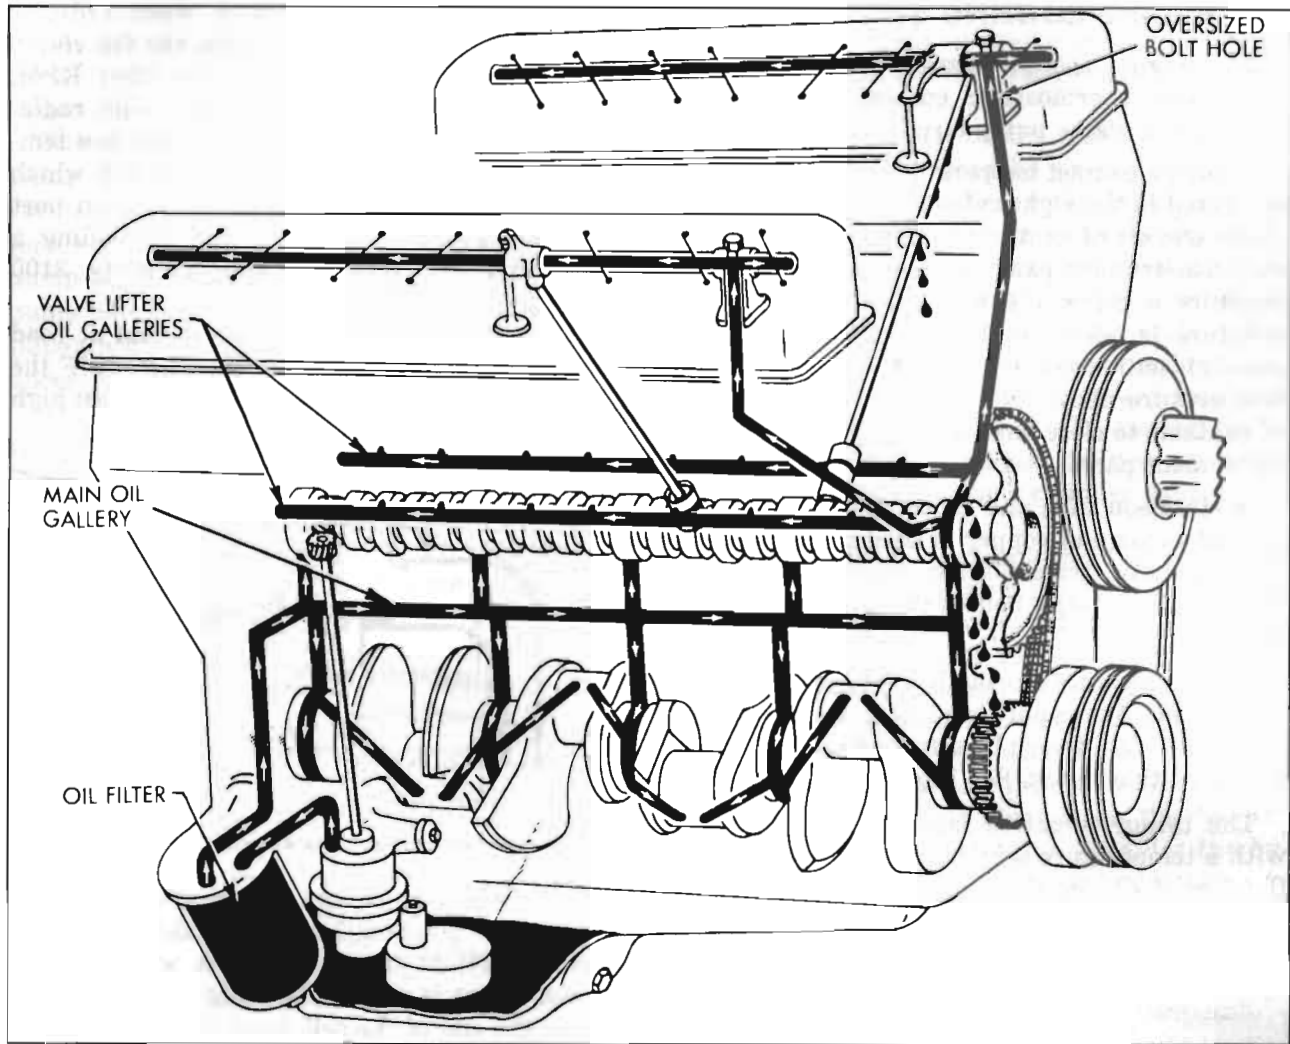

Figure 2-12—Schematic Diagram of Engine Oil Flow
The engine lubrication system is of the force-feed type in which oil is supplied under full pressure to crankshaft, connecting rods, and camshaft bearings, and is supplied under controlled volume to the valve lifters, rocker arm bearings, and push rods. All other moving parts are lubricated by gravity flow or splash. See figure 2-12.
drilled in the crankcase it distributes oil at full pressure to all crankshaft and camshaft bearings, from which oil is then distributed to all other working parts of the engine. See figure 2-12.
**Valve Lifters and Oil Galleries.** Oil holes in the crankcase and camshaft front bearing align with a groove in the camshaft front bearing journal which meters the flow of oil from the main oil gallery to the valve lifter oil gallery in each bank of cylinders. The drilled oil gallery, running full length of each cylinder bank, cuts into the lower sides of all valve lifter guide holes to supply an adequate volume of low pressure oil to each hydraulic valve lifter. Oil enters each lifter through grooves and holes in the lifter body and the plunger. See figure 2-12.
**Rocker Arms, Valves, and Push Rods.** The rocker arms and valves on each cylinder head are supplied with low pressure oil from the valve lifter oil gallery through connecting passages drilled in the front end of cylinder block and head. See figure 2-12. The oil passage in cylinder head ends in a counterbored recess surrounding the bolt which attaches the rocker arm shaft front bracket. The oversize bolt hole through the bracket permits oil to flow up into the hollow rocker arm shaft, which is plugged at both ends.